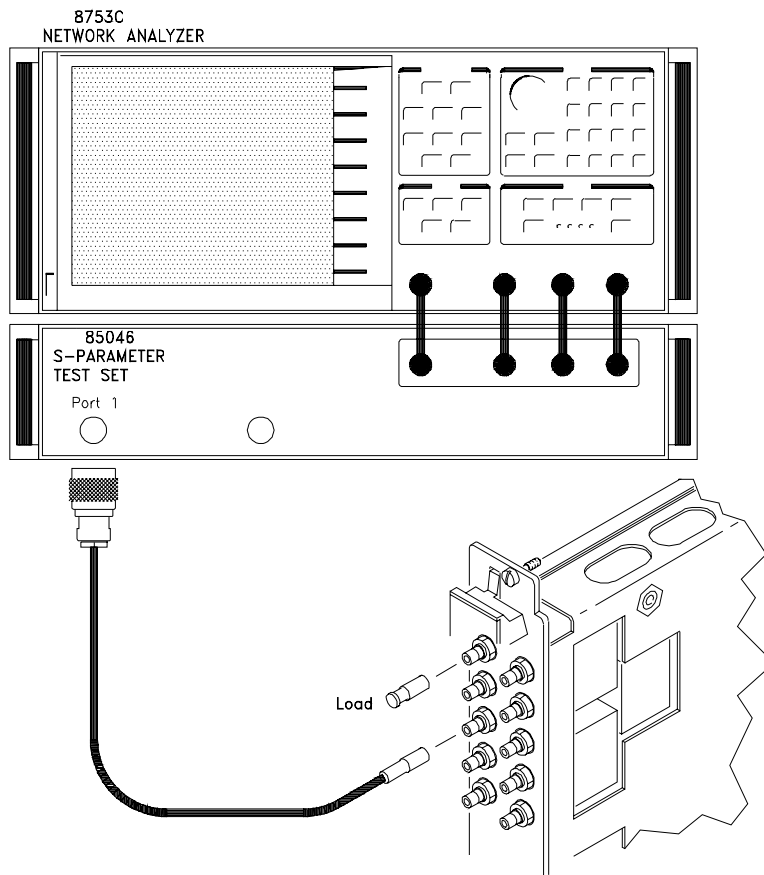

Figure 2-4. Channel 00 VSWR Test Connections
- Connect the Port 1 test cable to the COM 00 port on the multiplexer/expander as shown in Figure 2-4.
- Install the appropriate load on Channel 00 as shown in Figure 2-4.
- Install the appropriate load on each channel as shown in Figure 2-4.